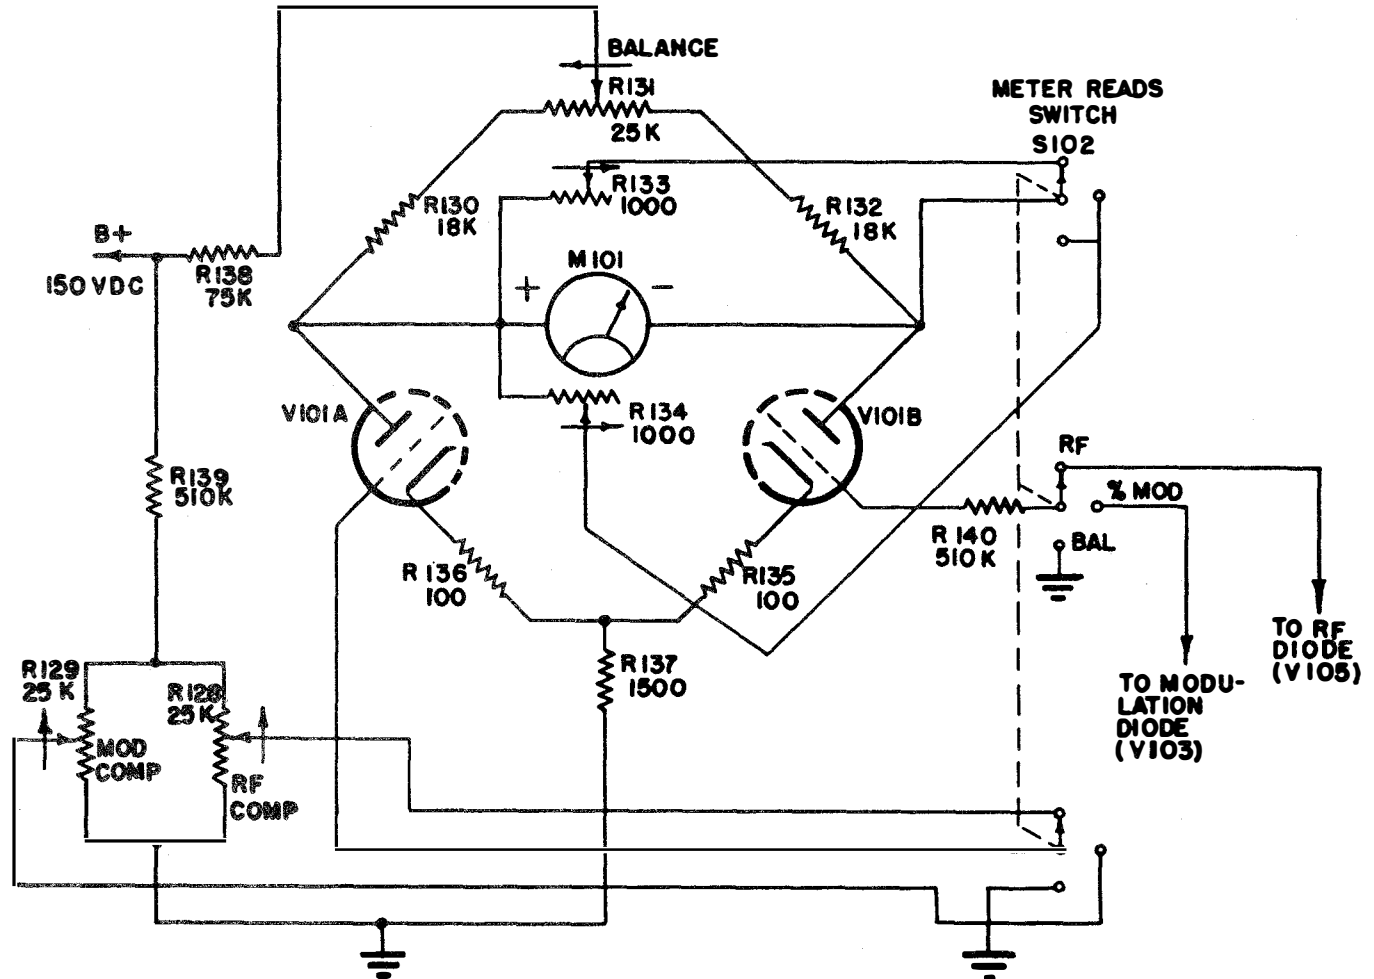

Figure 2-7. Schematic Diagram of the Voltmeter Bridge Circuit
(4) A ballast regulator lamp (R-156) connected in series with the filament of V-105 minimizes the effects of varying line voltage on the contact potential of the tubes. This contact potential is an emission characteristic which is prevalent in diodes. Its static effects are eliminated by adjustment of the RF COMP control (R-128), a screwdriver adjustment located on the audio compartment (See figure 2-7). The filament shunt resistor (R-157) improves the regulation characteristics of the ballast lamp by decreasing the cold to hot resistance change of the ballast load.
(2) The percentage modulation of the carrier frequency is determined by the modulation voltage applied to the control grid of the buffer-amplifier (V-104). This modulation voltage is taken from the 100,000 ohm % MODULATION potentiometer (R-111) and applied across the modulation diode (V-103) circuit where it is rectified. Resistors R-119 and R-121 serve as a voltage divider. A part of this rectified audio voltage is taken across R-121 and applied to V-101B when the METER READS switch (S-102) is in the % MOD position. Capacitors C-108 and C-118 block the DC grid voltage of V-104 from R-111 and V-103. Due to the modulation characteristic of the buffer-amplifier circuit, the degree of modulation is a function of audio voltage and independent of the carrier amplitude. The audio voltage amplitude applied to the grid of V-104 is therefore correlated to the percentage of modulation and read directly from the lower scale of M-101.
c. VOLTMETER BRIDGE CIRCUIT. (See figure 2-7).
(1) The voltmeter bridge (V-101) circuit provides a means for applying the rectified signals from either the RF or modulation diodes to the meter (M-101). The bridge circuit utilizes a tube type 12AU7 (V-101) dual triode and is located in the audio compartment. The principal electrical features of the voltmeter bridge circuit are shown in figure 2-7.